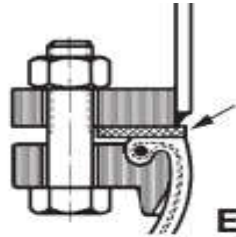

Figure 2 Flat seal between rubber bellows and counter flange
- 2.19 For HKS rubber expansion joints with a flange connection, the rubber bellows is usually also used as a seal to the pipeline counter flange. Seals are not required if the sealing surfaces of the counter flanges of the pipeline are designed in accordance with the figures below. Flat seals (refer to Figure 2) should only be used to protect rubber sealing surfaces if the counter flanges have a bore that is too large, sharp internal edges or irregularities, e.g. welding beads. If the diameters of the flanges are greatly different, a ring washer is additionally installed between the seal and bellows sealing surface. The flange fitting must not be excessively tightened here.